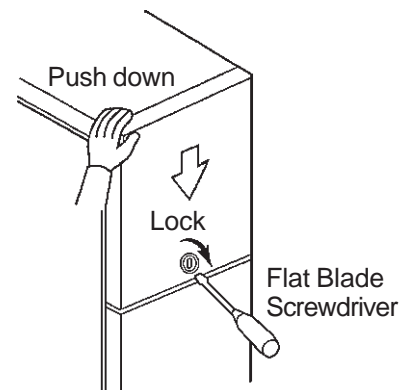

Fig. 6
- 6) Refit the Front Panel (Upper), and push down its top while turning the Hook clockwise. See Fig. 6.